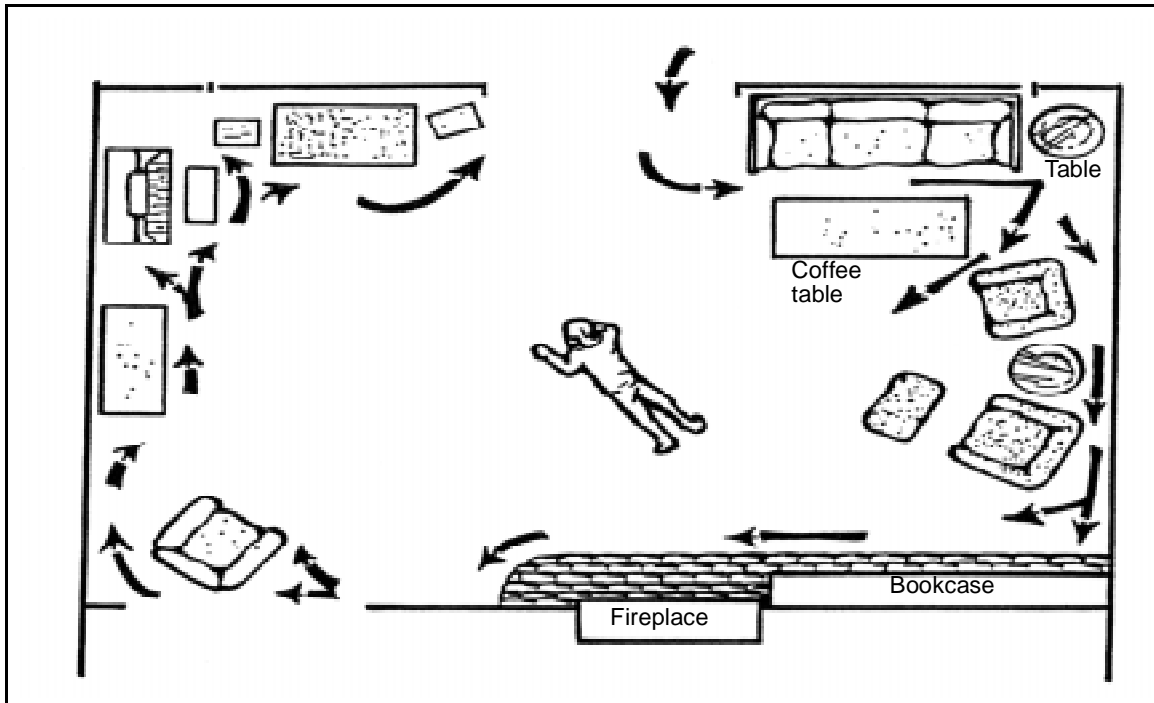
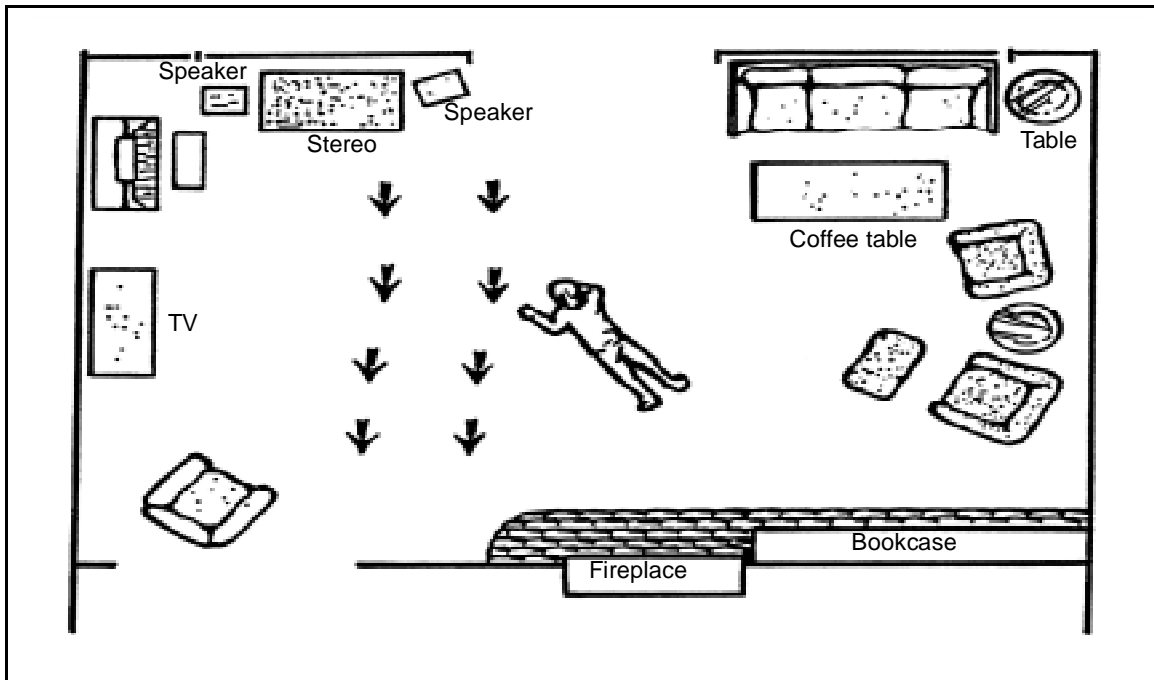

Figure 8-10. Searching a room's perimeter
Figure 8-11. Searching the center of a room
**8-63.** After entering a room, follow the wall around the room. Keep low and feel ahead for obstacles or pitfalls. Reach out with your hand or foot to cover a greater area. Keep in constant and direct contact with the wall. This method brings you back to your entry point (Figure 8-10). Search the center of the room (Figure 8-11).